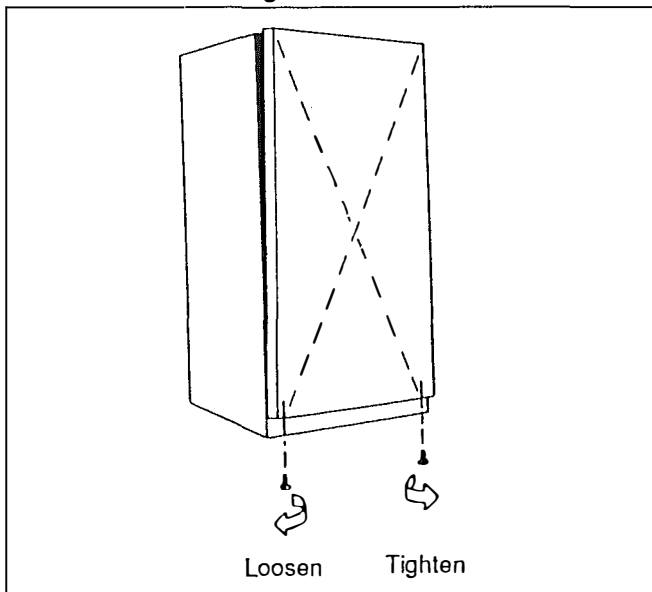
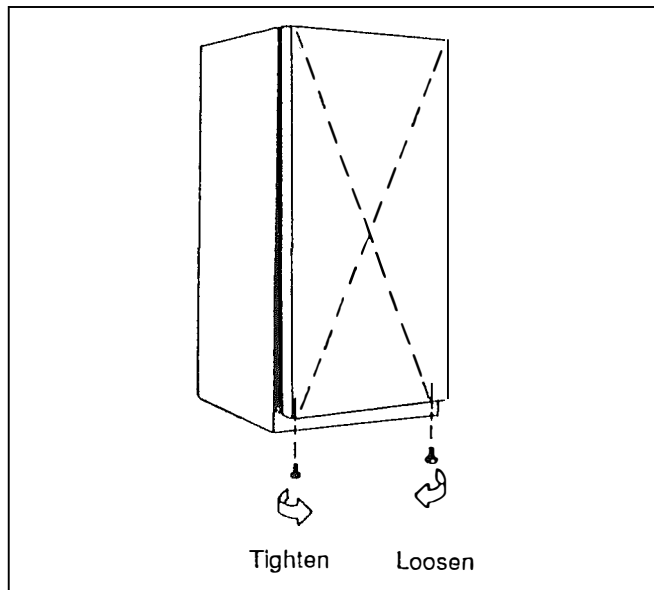

Figure A3 - Adjust Top Of Door In
Figure A4 - Adjust Bottom Of Door In
2. On models without alignment screws on the bottom edge of the door, as shown in Figures A3 and A4, manually align the door to the cabinet.
3. On models with alignment screws, adjust the screws with a 5/16" wrench. If the door does not seal at the top, use Figure A3. If the door does not seal at the bottom, use Figure A4.